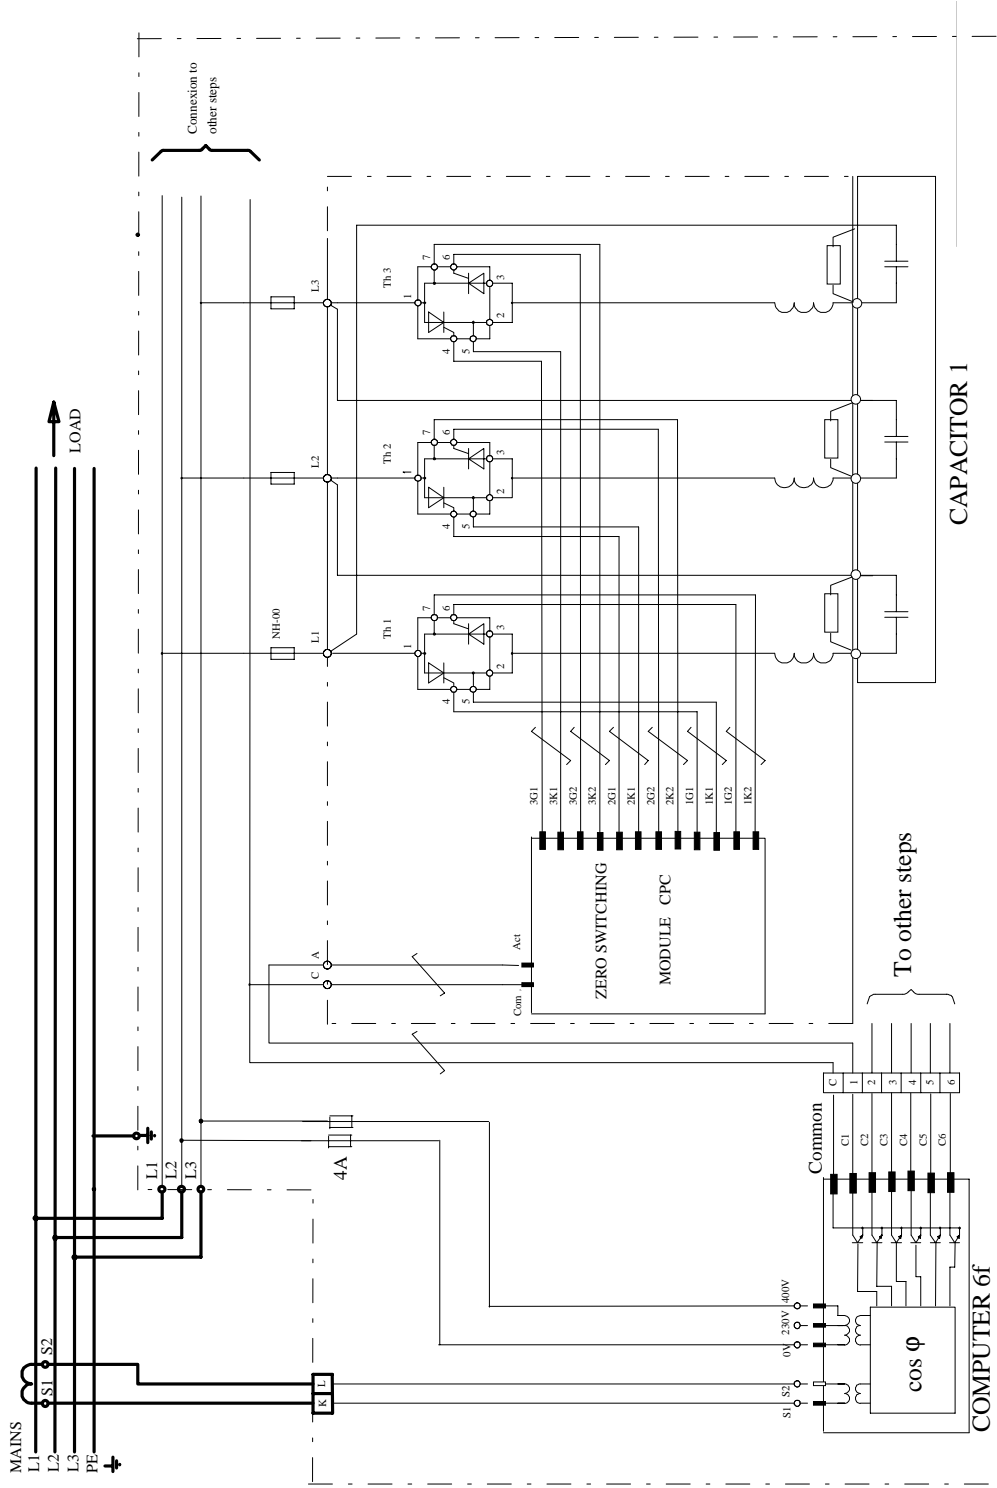

Figure 2.- ECK wire diagram (one step)
- The external wiring of a static capacitor bank is similar to a conventional capacitor bank using switchgears. The figure 2 shows a diagram including external wiring and internal connections to a single step (other steps will follow the same pattern).
- The PF regulator connections may be seen in figure 2. Notice that the voltage inputs must always be taken from phases L2 and L3 , choosing the suitable input of 230 or 400 V , depending on the phase to phase voltage at the line to be compensated.